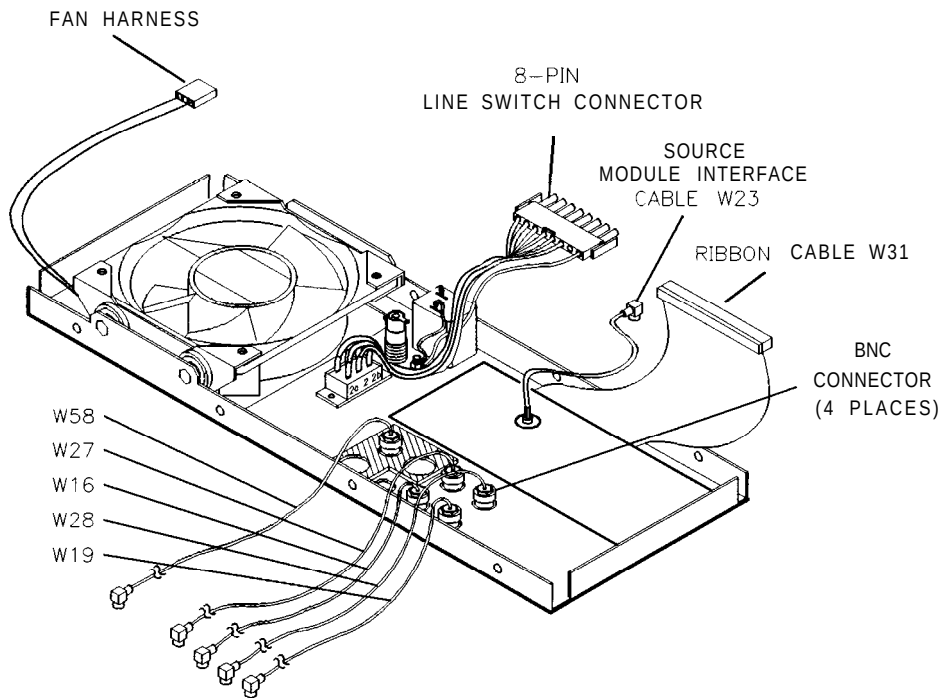

Figure 7-12. Rear Panel Cable Locations
4. Disconnect ribbon cable W31 from the motherboard. Refer to Figure 7-12.